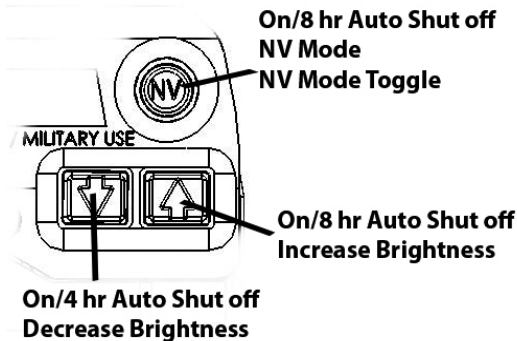

Fig 4: Pushbutton interface
All electronic controls are via pushbutton switches located on the left side of the unit housing as shown in Fig. 4. To ensure proper operation of the pushbutton switches, press firmly on the center of the switch.
Pressing the NV Button (see Fig. 4) will turn the sight ON in Night Vision Mode. The sight will turn on at Level 4 and automatically shut off 8 hours after the last pushbutton control is used. There are ten (10) NV brightness settings provided to allow the user to adjust the reticle brightness to their preference.